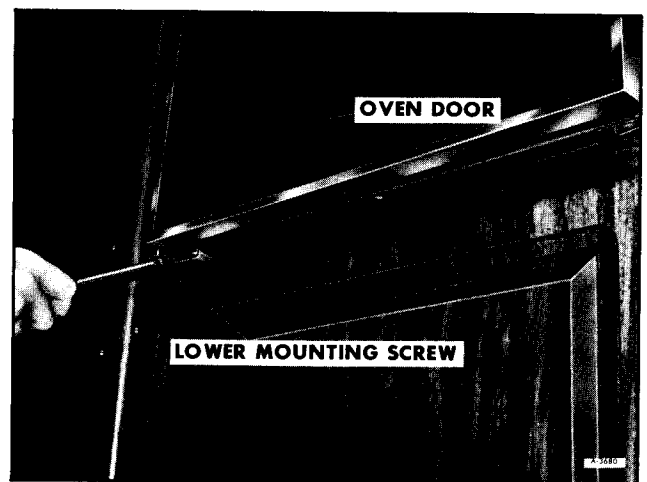

Figure 23—Removing Lower Range/Oven Mounting Screws
4. Remove lower mounting screws located inside side trim at bottom of oven door (figure 23).